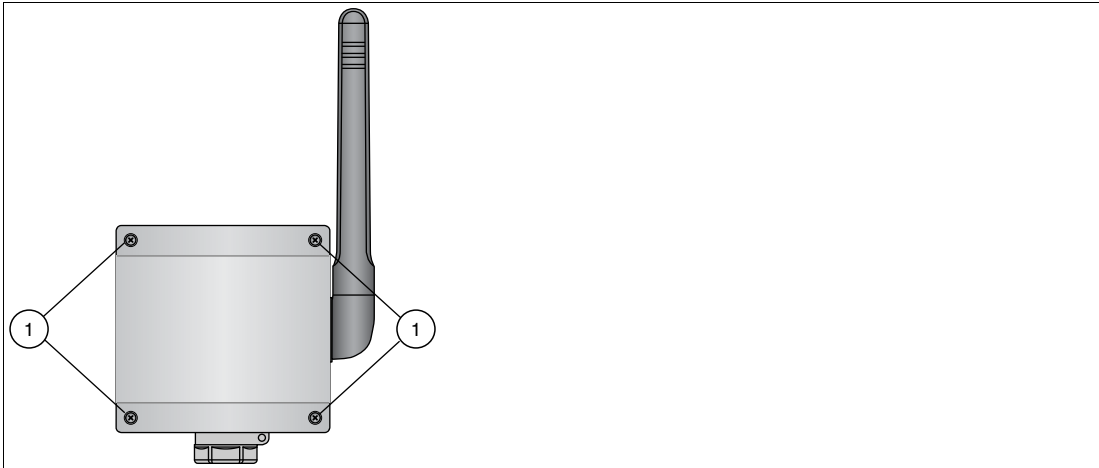

Figure 3.16 Opening the cover
1. If necessary, open the adapter cover by unscrewing the four captive Phillips screws. → see Figure 3.16 on page 26